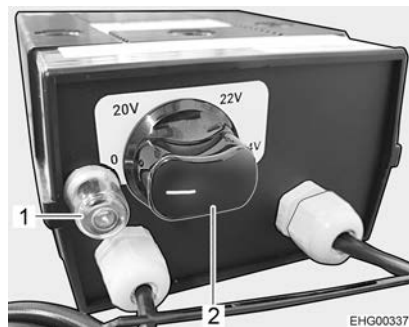

Fig. 179 Regulator for electrical floor warming unit
- Turn the control knob (Fig. 179,2) to the required heating level.
- Turn control knob (Fig. 179,2) to "0" position.
After switching off, the floor remains warm for a while, due to residual heat. If the regulator is overloaded, the overload protection is actuated. The pin (Fig. 179,1) jumps out.
- Press the pin (Fig. 179,1) on the overload protection when the regulator is cooled.